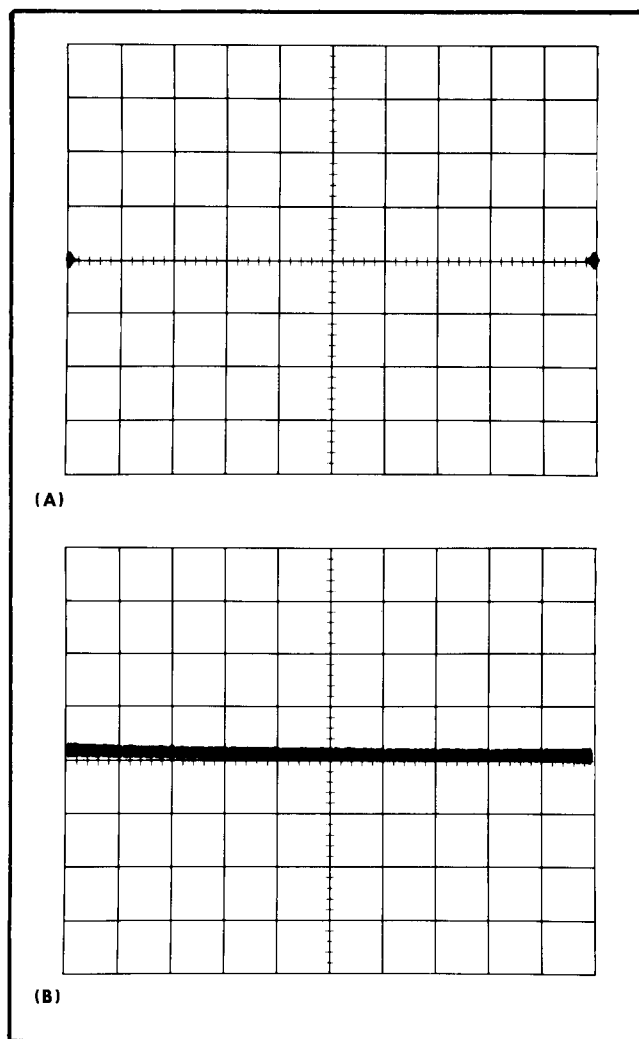

Fig. 5-3. Typical CRT displays when checking common-mode rejection ratio.
c. Adjust the Time Base Horizontal Volts/Div Variable for exactly ten divisions of horizontal deflection (two dots). Leave the Variable control in this position for the balance of the test. Horizontal deflection factor is now calibrated for 2 volts per division (see Fig. 5-3).